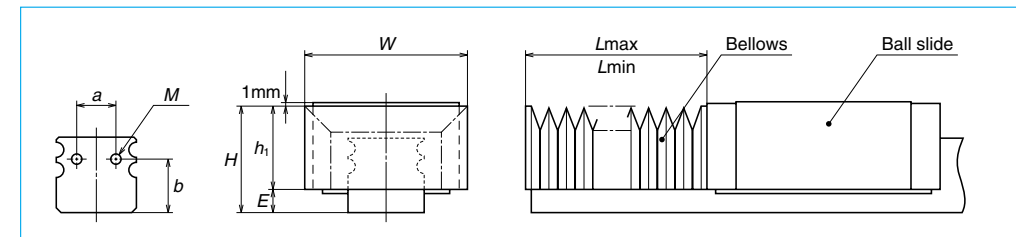

Fig. II-5-10
② LY Series
**\* Installation in the ball slide (Fig. II-5-10)**